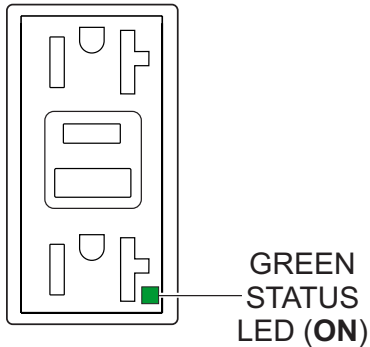

Figure 70. GFCI Receptacle (ON)
3. Verify that the **status LED** on the corresponding **GFCI receptacle** (Figure 70) is **ON (GREEN)**.